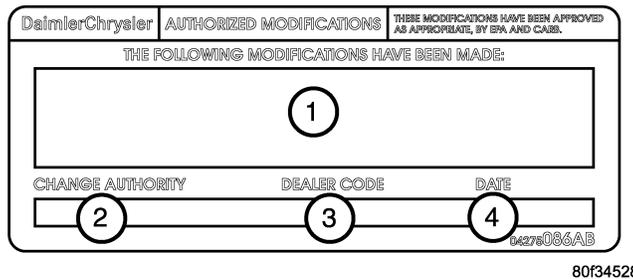

Fig. 1 AUTHORIZED MODIFICATION LABEL
- 7. Type the necessary information on the “Authorized Modification Label” p/n 04275086AB and attach near the VECI label (Fig. 1).